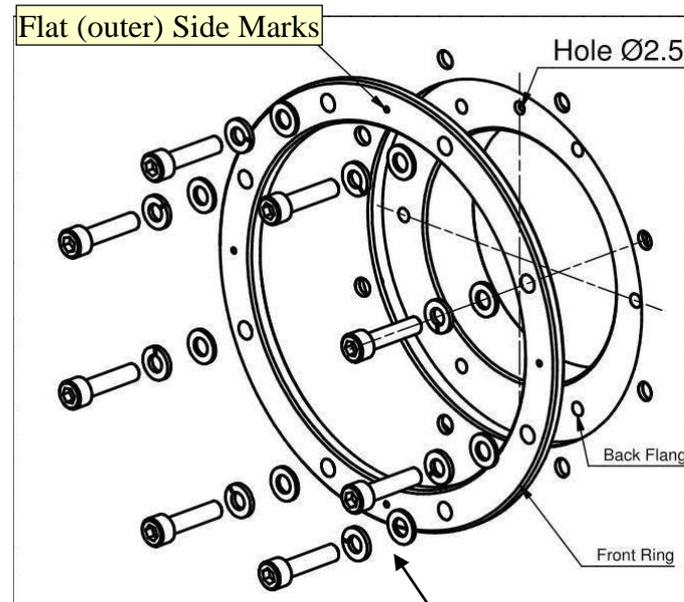
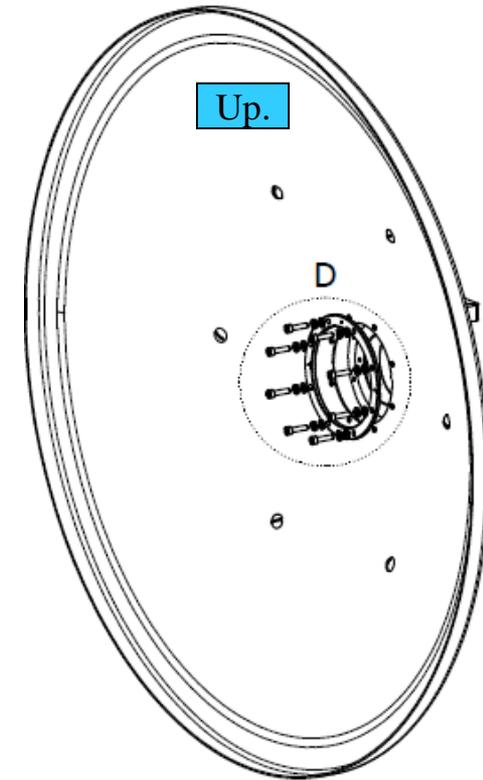

Fig 2.3
Fig 2.4
2.3. Front Ring has two sides – flat and conical. Flat side is indicated by four marks as shown in Fig 2.3. Put Front Ring with flat side facing outside (conical side to dish).
2.4. Connect Back Flange, Front Ring and Dish with 8 sets of screws and washers from kit #2 as shown in Fig 2.3 and Fig 2.4. Tighten the screws.